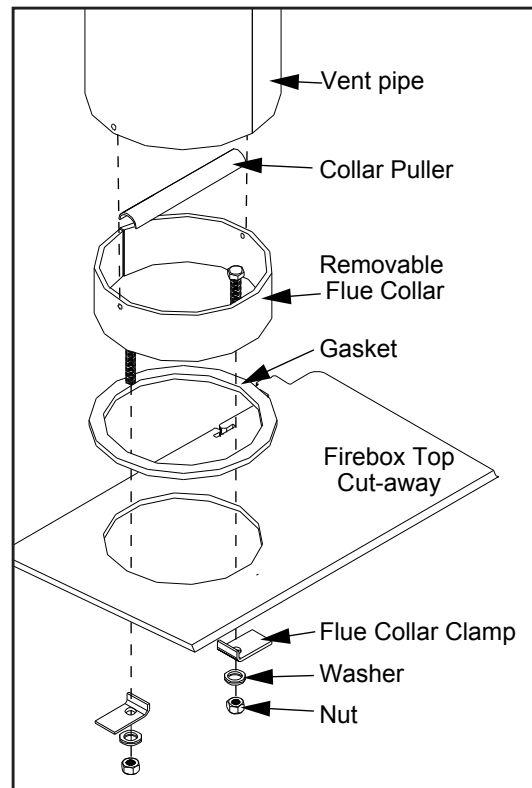

Figure 40: Attaching removable flue collar.
- a) Remove the rear two (2) secondary air tube and C-Cast Ceramic Baffles, if installed (see C-CAST CERAMIC BAFFLE INSTALLATION). Remove the secondary air tubes by placing a screwdriver (any style except flat head) into one of the air holes and tapping it with a hammer/mallet to the left.
- b) Unscrew the two (2) nuts on top of the inside of the firebox, using a $\frac{9}{16}$ " wrench or socket (see Figure 40). The Flue Collar Clamps will slide off the bolts.